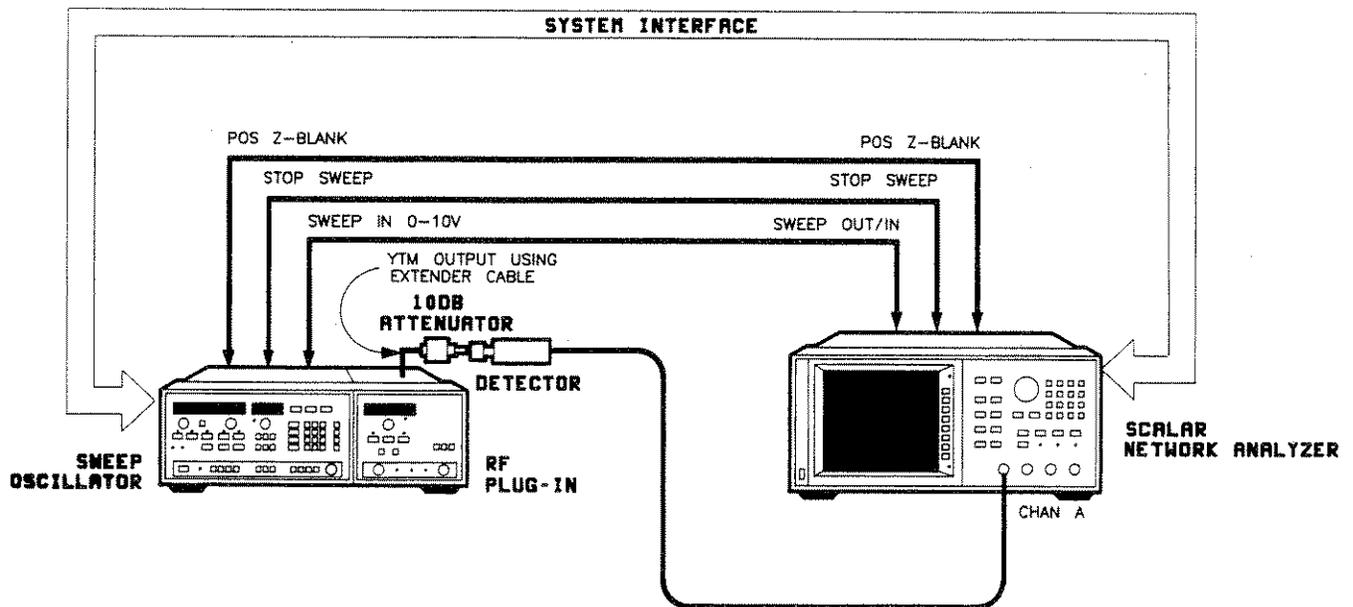
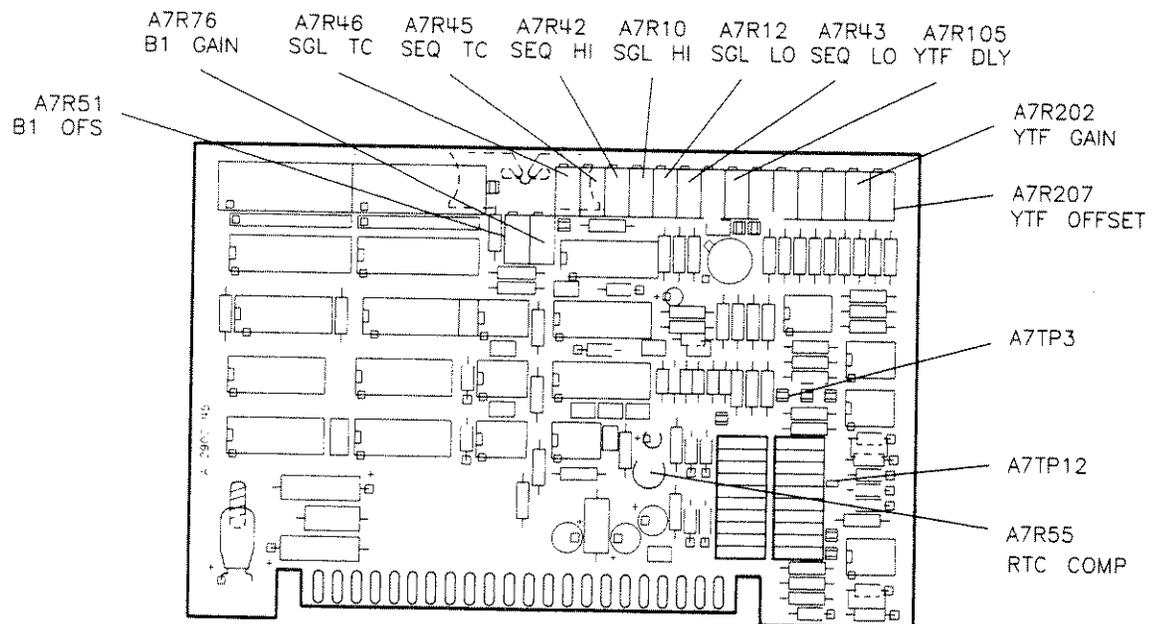

Figure 5-27. YTM Delay Compensation Test Setup
Figure 5-28. YTM Delay Compensation Adjustment and Test Point Locations
1. Connect the equipment as shown in figure 5-27. Preset A7R45 (SEQ TC) fully counterclockwise (see figure 5-28 for adjustment locations).